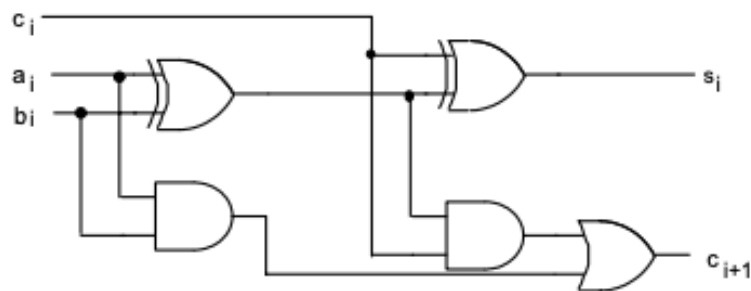
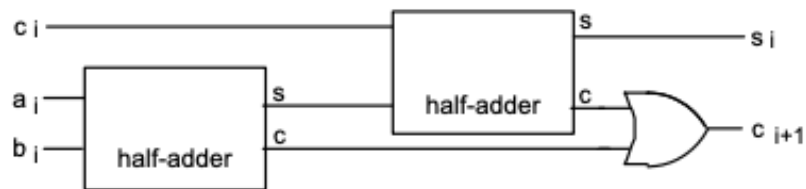
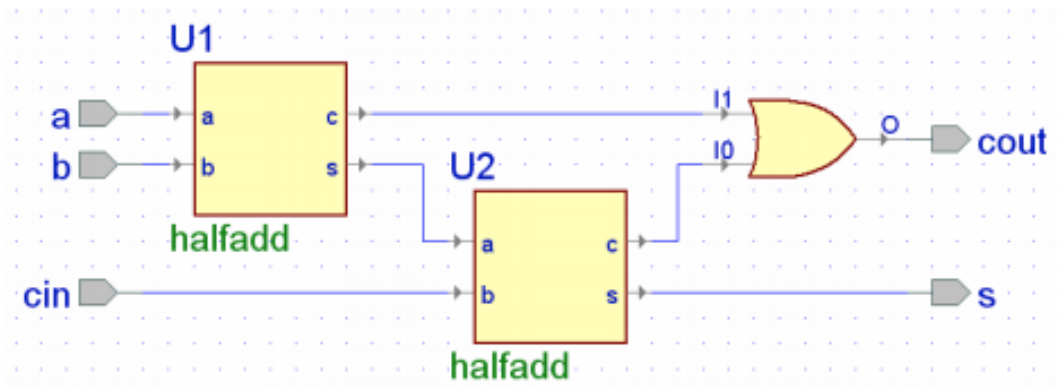
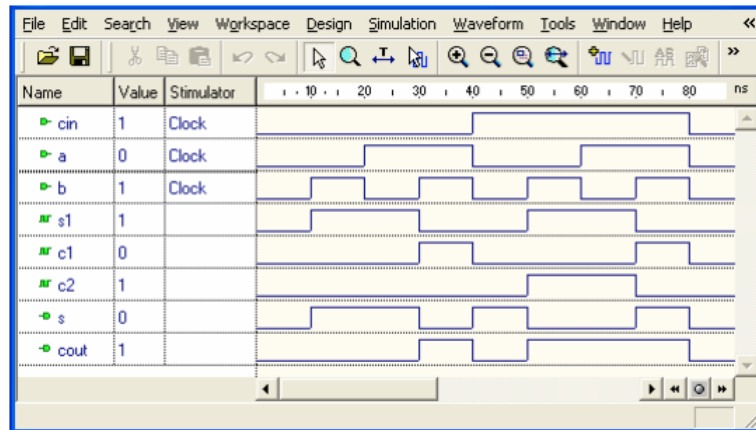

Figure 5. Logic diagram for a full adder
Figure 6. A full adder can be made from two half adders plus an OR gate
Figure 7. Block diagram fulladd.bde for a full adder
Figure 8. Simulation of the full adder in Fig. 7 and Listing 2
From Eqs. (4) and (6) we can draw the logic diagram for a full adder as shown in Fig. 5. Comparing this diagram to that for a half adder in Fig. 1 it is clear that a full adder can be made from two half adders plus an OR gate as shown in Fig. 6.
From Fig. 6 we can create a BDE design, fulladd.bde, as shown in Fig. 7. The Verilog program resulting from compiling this design is equivalent to that shown in Listing 2. A simulation of this full adder is shown in Fig. 8. Note that the outputs agree with the truth table in Fig. 3.